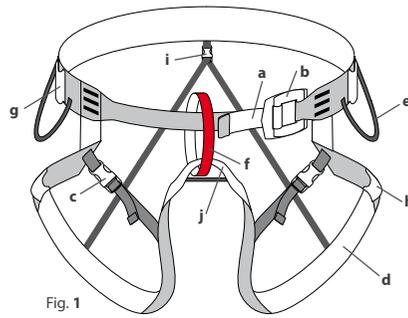

Fig. 1
**Overview** (Figure 1)
**Nomenclature** (Figure 1)